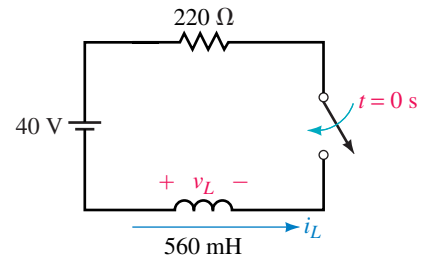

FIGURE 14–42
13. For Figure 14–1(b), if $v_L = 40e^{-2000t}$ V and the steady state current is 10 mA, what are E , R , and L ?
14. For Figure 14–43, $E = 80$ V, $R_1 = 200$ Ω, $R_2 = 300$ Ω, and $L = 0.5$ H.